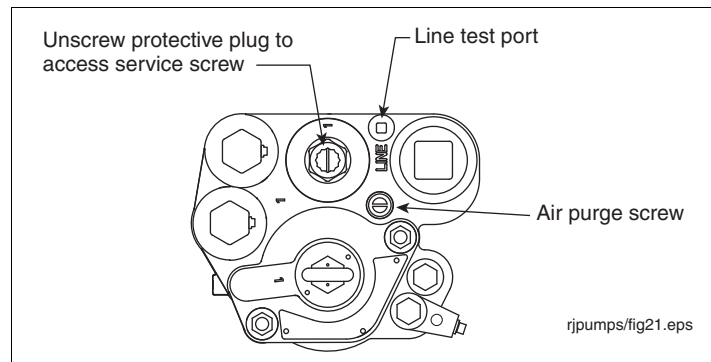

Figure 38. Service Screw, Line Test Port And Air Purge Screw Locations
3. Remove line test port plug (see Figure 38). Apply line test pressure at line test port (50 psi [345 kPa] maximum).
6. Turn the air purge screw 2 - 3 turns counterclockwise (see Figure 38).
1. Remove and retain the protective plug over service screw and turn the screw clockwise (see Figure 38). As the screw approaches its bottom position, you will hear the system depressurizing. Continue turning the screw until it can go no further.
5. Turn the air purge screw 2 - 3 turns counterclockwise (see Figure 38).